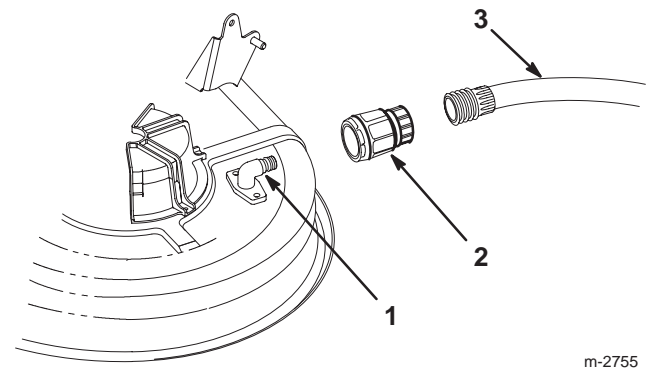

Figure 53
5. Screw the coupling to the end of a garden hose, attach the coupling to the mower washout fitting, and turn the water on high (Fig. 53).